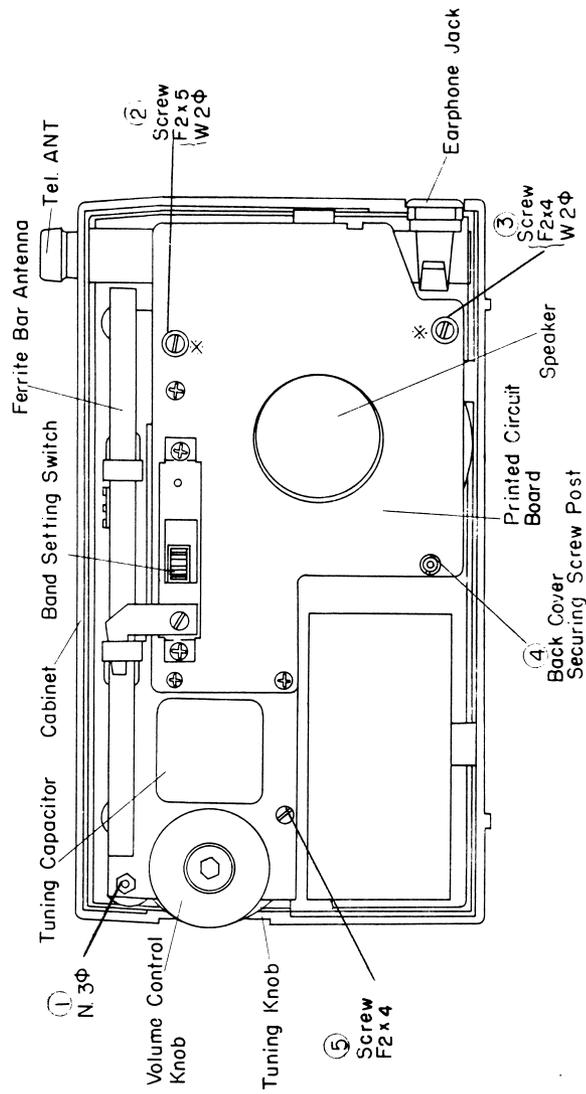

fig. 1
- Remove three Screws (②), (③) & (⑤) in Fig. 1), one Nut (①) in Fig. 1) and a Back Cover Securing Post (④) in Fig. 1).